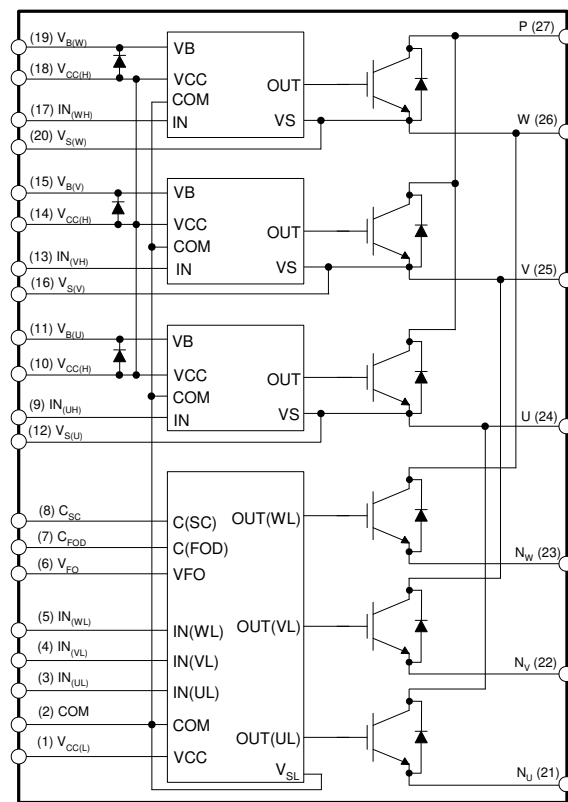

Figure 3. Internal Block Diagram
- 600 V - 10 A IGBT inverter for three-phase DC / AC power conversion (please refer to Figure 3)